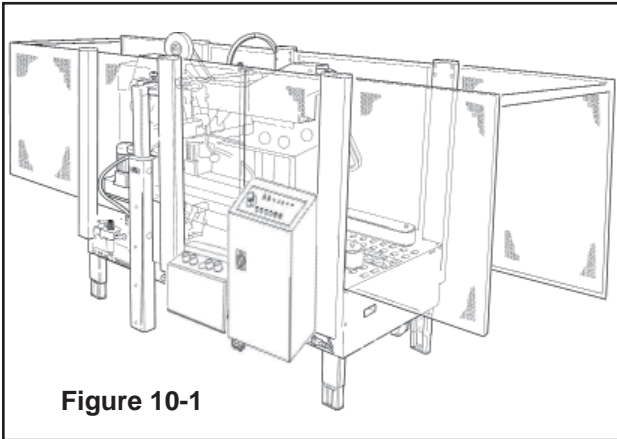

Figure 10-1
It limits the access to the machine, protecting the operator from the moving parts (Figure 10-1).
The machine electrical supply can be turned off by pressing the latching emergency stop switch. To restart machine, rotate the emergency stop switch clockwise to release the switch latch. Restart machine by turning the On/Off switch to the Off (O) position and then to the On (I) position (Figure 10-1).